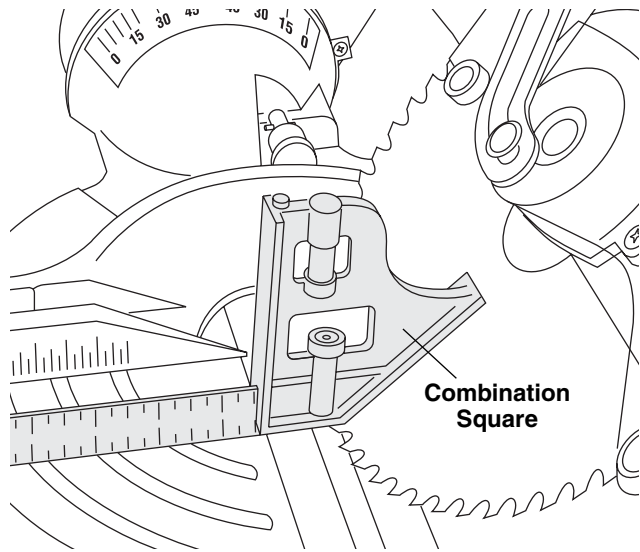

Figure 1. Right 45° Bevel Stop
6. Use a combination square to check blade at the 45° stop. Place the combination square head on the table and press its 45° surface against the blade. If the blade does not contact the full length of the square, (figure 1), follow the calibrating procedure.
3. Position combination square with 45° surface against blade. (Figure 1)